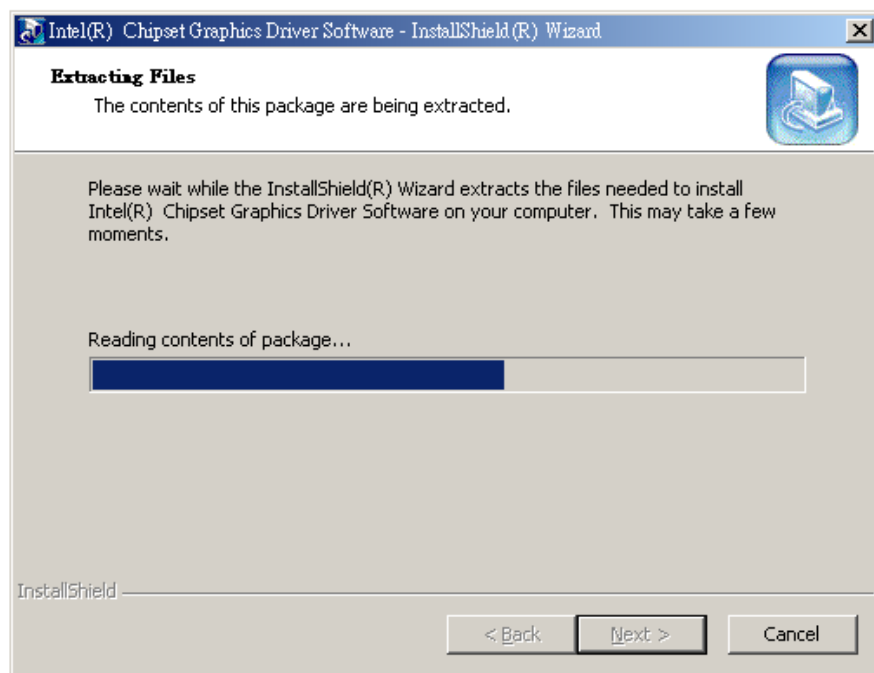

Figure 7-7: Preparing Setup Screen
Step 4: The Preparing Setup window appears next (Figure 7-7).